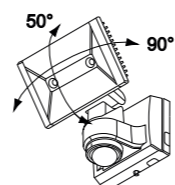

Fig. 3
- 3.2.2** The lamp head can turn 90° horizontally and 50° vertically to ensure an optimum illumination (fig. 3).